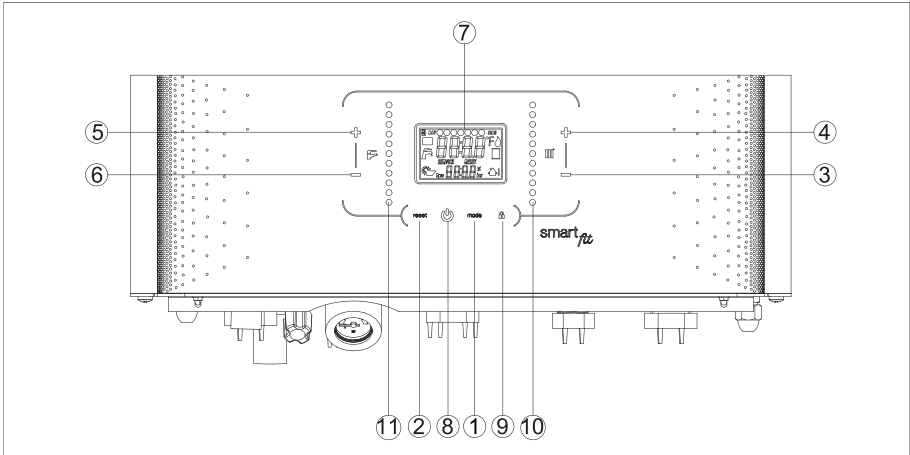

Figure 1. Control Panel
To operate your combi boiler in the “SUMMER” position, touch the button (1) (Figure 1) and see that only the tap symbol (F) lights up continuously on the display. In this position, the combi boiler will only operate for the domestic water system. The automatic ignition system will ignite the burner whenever domestic water is needed. The flame formation in the combustion chamber is indicated by (flame) symbol on the display. When using domestic water, the tap symbol (F) on the display flashes.
To operate your combi boiler in the “WINTER” position, touch the button (1) (Figure 1) and see that the symbols of the tap (🚰) and radiator (🔥) light up continuously on the display. In this position, the combi boiler will work for domestic water and heater systems. The automatic ignition system will ignite the burner whenever domestic water or heating is needed. The flame formation in the combustion chamber is indicated by (🔥) symbol on the display. On the display; the tap symbol (🚰), flashes when using domestic water, and the radiator symbol (🔥) flashes when the heater water is needed.
To operate your combi boiler in the “HEATING ONLY” position, press button (1) (Figure 1) and see that only the radiator (🔥) symbol lights up continuously on the display.
- When the device is energized, “OFF” will be displayed on the display. By touching the mode button (1) (Figure 1), you can switch between SUMMER-WINTER-HEATING ONLY-OFF positions, respectively.
- Check that there are no flashing digits on the display (7) (Figure 1) (see error codes). If the display (7) shows the error E04, this indicates that there is no water in the combi boiler. In this case, fill the system with water as described in “Section 2.6”.
The heating temperature is set by the buttons (3) and (4) (Figure 1).
- The heater set temperature is decreased by touching the button (3).
- The heater set temperature is increased by touching the button (4).
- The heater set temperature is increased or decreased by sliding the button (10).
The domestic water temperature is set by buttons (5) and (6) (Figure 1).
- The hot domestic water set temperature is increased by touching button (5).
- The hot domestic water set temperature is decreased by touching button (6).
- The domestic water set temperature is increased or decreased by sliding the button (11).
This section contains a list of error codes that may occur on the combi boiler's display **(7)** (see Figure 1), the relevant symptoms, and the actions the user can take to reset the combi boiler.
- Turn the device off and on again using the button **(8)** (Figure 1) on the control panel. Wait for the system to ignite, if the error E01 appears again, turn the device off and on once again. This is done to ensure that the gas in the pipes reaches the device.